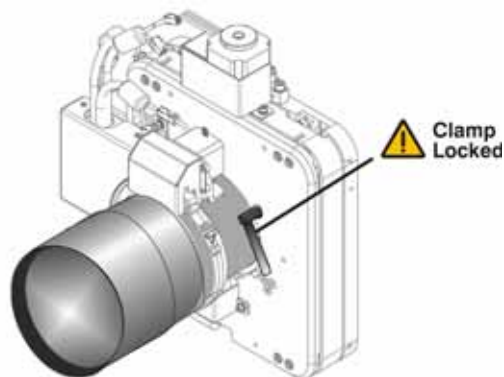

Figure 2-20
10. Calibrate the lens. See Figure 2-20 for details.